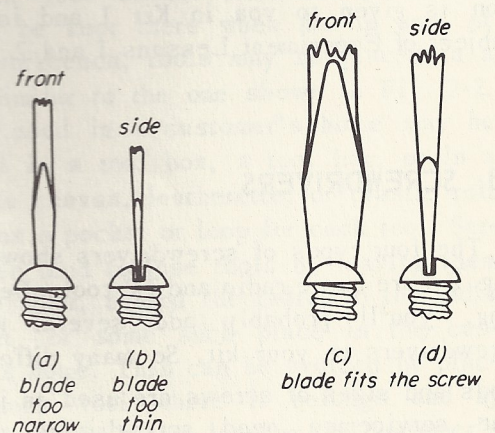

Fig. 2-7
2. Choose a screwdriver with a blade that fits the screw head. (See Fig. 2-7.)